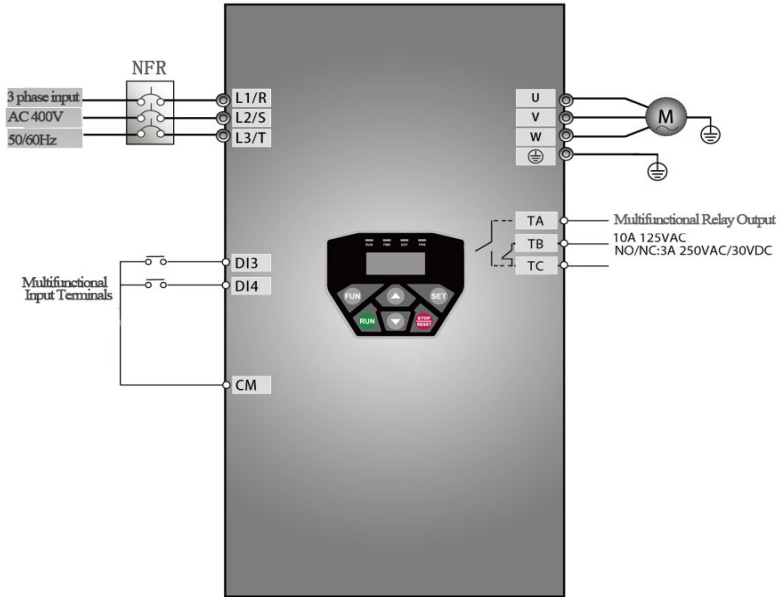

Figure 5-2 Wiring Diagram
- (1) Connect the wires in accordance with Figure 5-2. After having checked the wiring successfully, switch on the air switch, and power on the inverter;